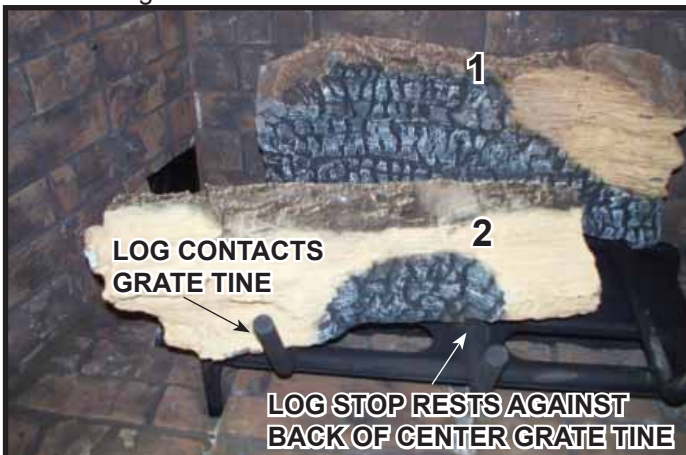

Figure 5.
**Log #2 (2284-702):** Locate log placement slots on the bottom of Log #2. See Figure 4. Mate slots on the bottom of Log #2 with the left and center grate tines. See Figure 5. Slide log forward toward front of appliance until left front of log contacts back of left grate tine and stop on right side of log contacts the back of the center grate tine. Log should be positioned as shown in Figure 5.